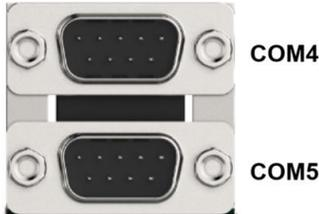

Figure 4-27: RS-422/485 Connectors
- CN Location:** See Figure 4-27